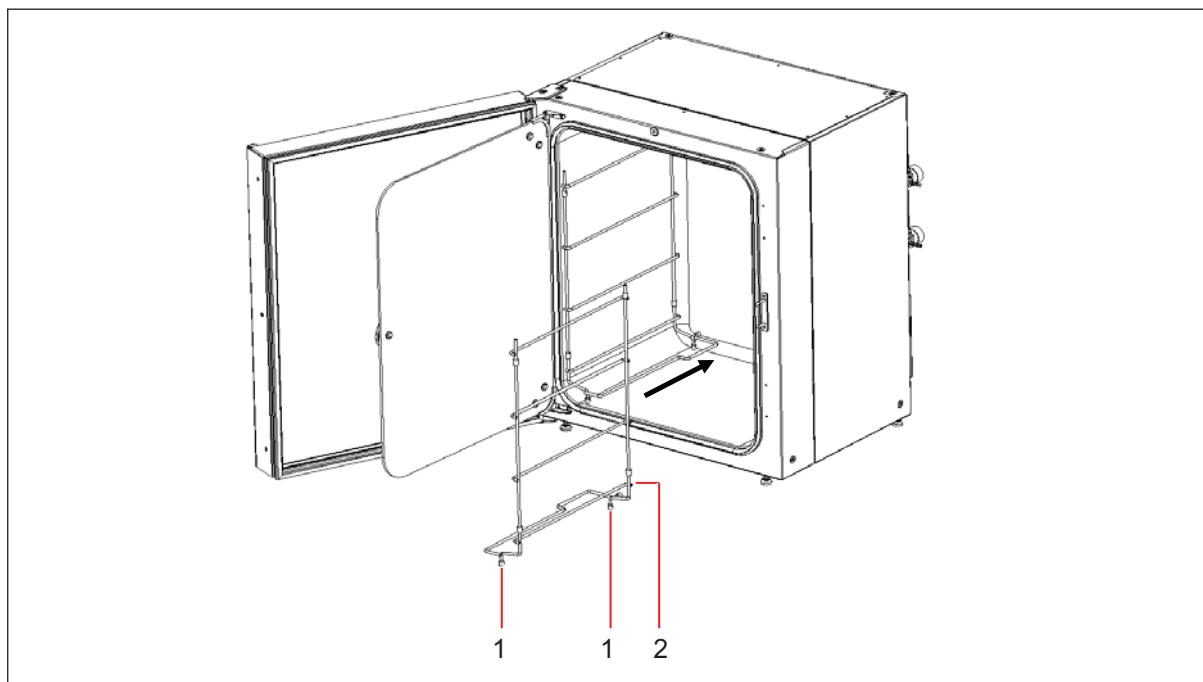

Fig. 4-2: Inserting shelf racks
2. Place two rubber shelf rack feet, and one shelf rack spacer onto each shelf rack (see Fig. 4-2 on p. 23).